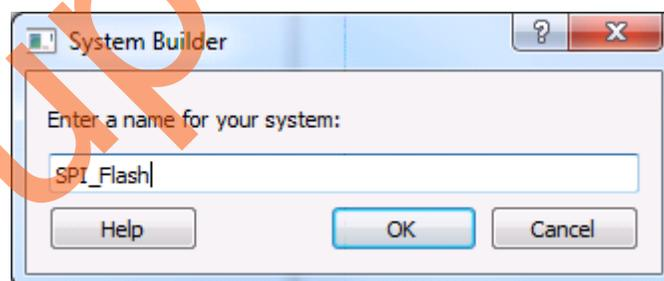

Figure 6 • System Builder Dialog Box
- Enter **SPI_Flash** as the name of the system and click **OK**, as shown in Figure 6.